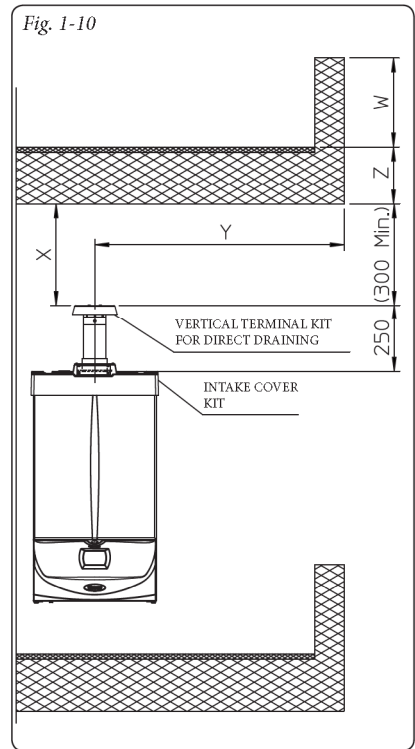

Fig. 1-10
**Example of installation with direct vertical terminal in partially protected location.** When the vertical terminal for direct discharge of combustion products is used, a minimum gap of 300 mm must be left between the terminal and the balcony above. The height X+Y+Z+W evaluated with respect to the balcony above, must be equal to or more than 2000 mm. (Fig. 1-10). The term W must only be considered if the balcony above has closed balustrade (W=0 if the balustrade is open).